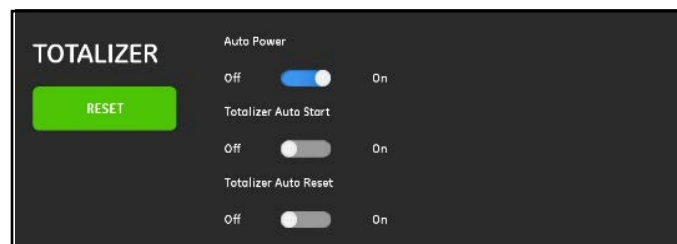

Figure 129: TOTALIZER AUTOPOWER function
- **AUTO POWER:** When enabled, the device will automatically power on when external power is restored after an outage. If this function is activated, the AUTO START and AUTO RESET features can be enabled if required (*Figure 129*).